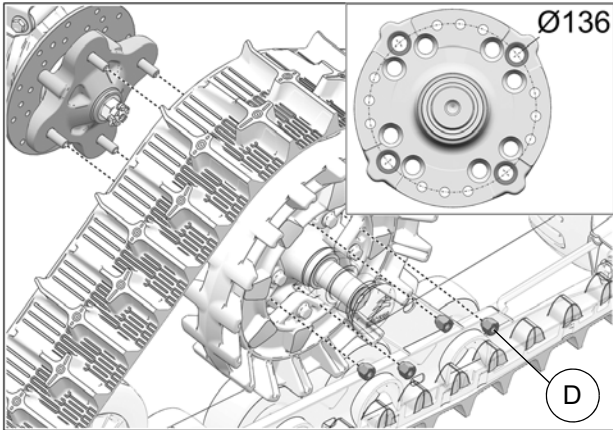

Fig. 21
8. Secure undercarriage to front hub using the lug nuts (D) provided. Use bolt circle $\text{\O}136\text{mm}$. See Fig. 21